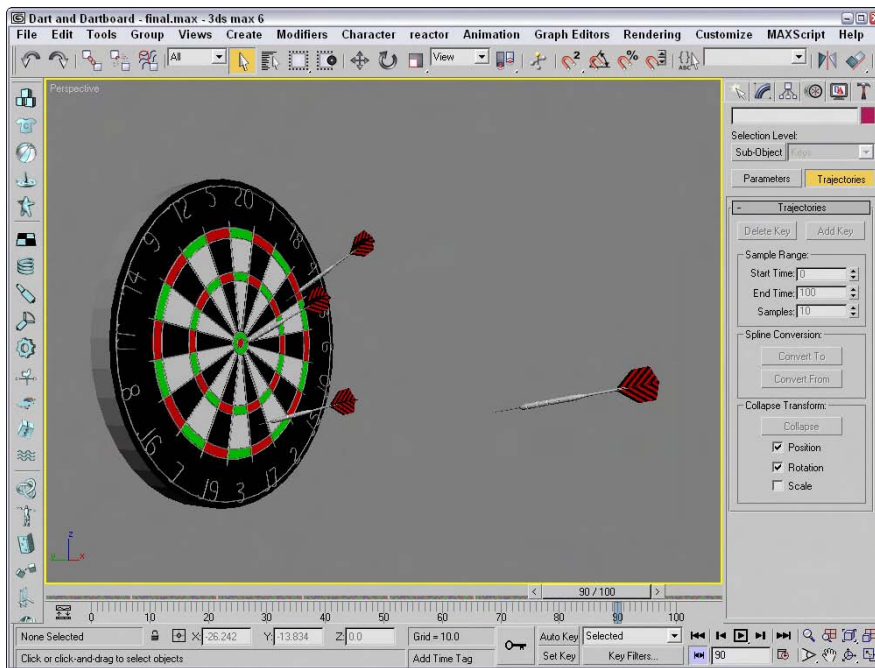

Figure 30-11: One frame of the dart animation
8. Click the Auto Key button (or press the N key) again to disable animation mode, maximize the Perspective viewport, and click the Play Animation button to see the animation. Figure 30-11 shows the darts as they're flying toward the dartboard.